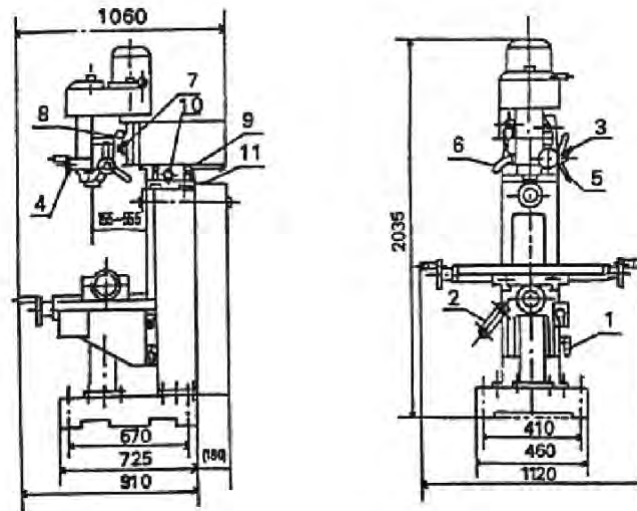

Fig 1
2. The spindle, sleeve, column and table etc. should be lubricated as per Fig 1. At the correct intervals.